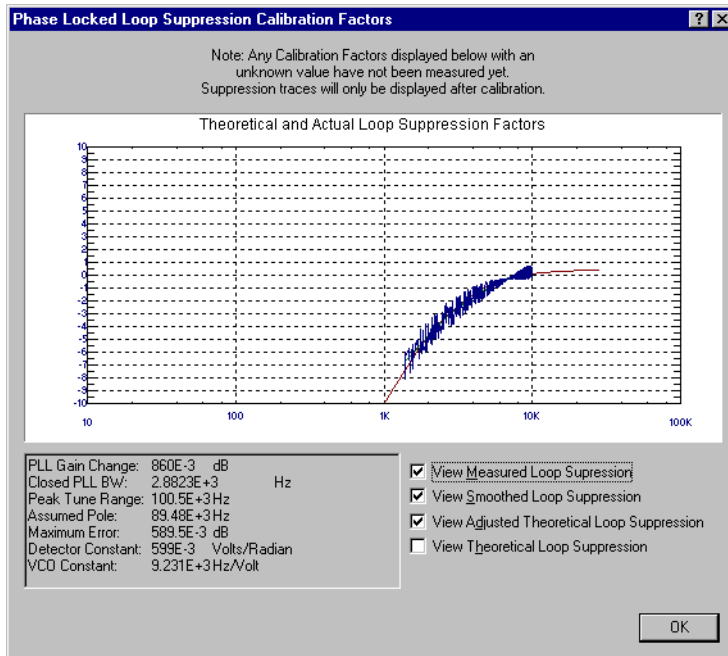

Figure 7-53 SelectingSuppressions
- 2 When the PLL Suppression Curve dialog box appears, select **View Measured Loop Suppression**, **View Smoothed Loop Suppression**, and **View Adjusted Loop Suppression**. See Figure 7-53.